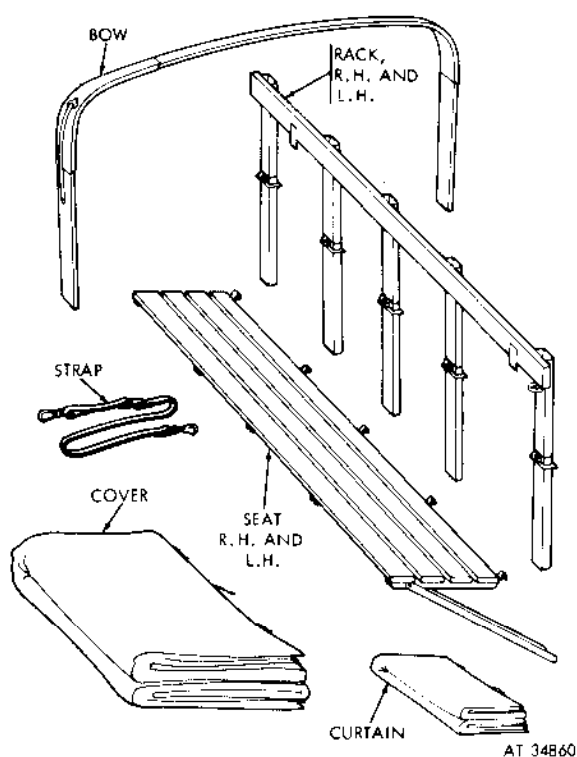

Figure 2-220. Dump body troop seat accessory kit—
**2-241. General.** Dump body and hoist assembly components consist of the all-steel welded dump body and subframe, the gear type hydraulic pump which is bolted to the control valve assembly, the control linkage for the power takeoff and control valve, and hydraulic lines and fittings for the system. In addition, troop seat accessory kits designed to permit dump trucks to transport personnel are available. These kits consist of seats and backs (called racks) with a tarpaulin covering held up by the necessary bows (fig. 2-220).